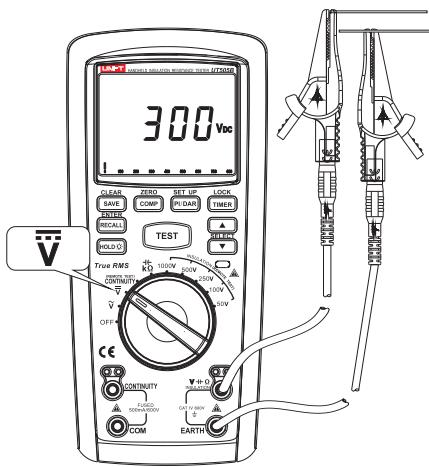

Figure 5
2. Measuring of DC Voltage (See Figure 5)
- ① Insert the red probe into "V" jack (red jack), and black one into "EARTH" jack (black jack).
- ② Rotate dial switch to "V" tap position and connect the probe to both ends of the power supply or load to be tested in parallel.
- ③ Read current measuring values of DC voltage from the display.
- ④ In measuring, if intending to save measured voltage, press the key of "SAVE/CLEAR" for saving.